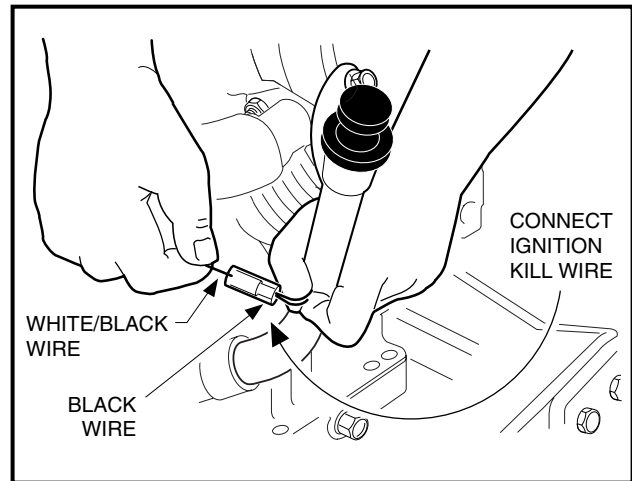

FIGURE 10-95
17. Connect the engine kill switch wire (18 gauge white/black stripe) to the bullet connector at the lower right front of the engine (**Figure 10-95**).